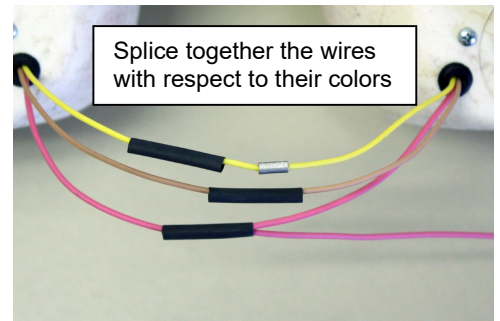

Figure 4
- 3.7.2. Between the Inner and Middle housings on each side, bring each of the four matching color wire together for splicing, including the additional wires measured off from Step 3.7.1, with moderate slack. If sequential lighting patterns are desired, the one Pink wire splice will have four wires, one from each housing from that side of the trunk lid, one from the other side of the trunk lid and one that will route to the outer light housing. Cut off any excess wire length and strip off 3/16" insulation off each wire. Slide a piece of heat shrink tubing over all wires on one side of the splice. Using the butt splices provided, insert the one color wire into each side and crimp the wires together. Then slide the heat shrink tubing over splice and shrink into place with a heat gun or other suitable heat source. (See Figure 4)